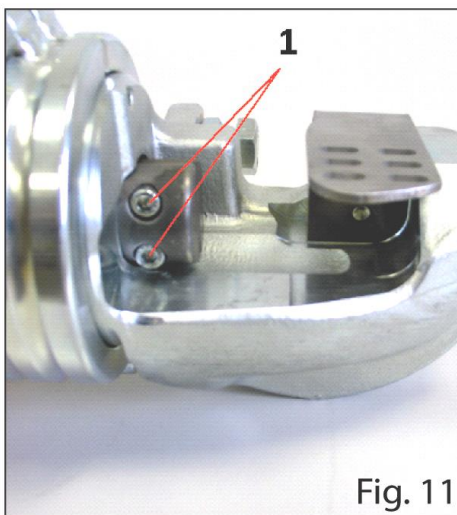

Fig. 11
- Loosen the two lock screws and washers indicated in fig. 11;